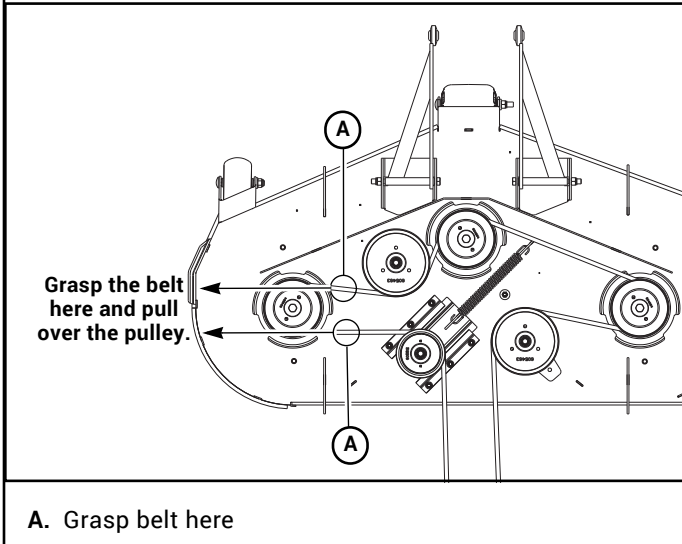
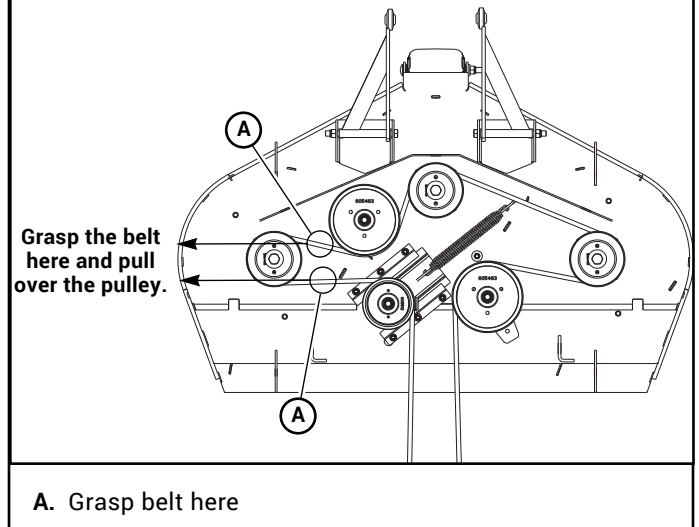

Figure 6-9
Figure 6-10
2. Grasp the belt at the two locations shown and pull the belt over the left spindle pulley. Figure 6-9 & Figure 6-10